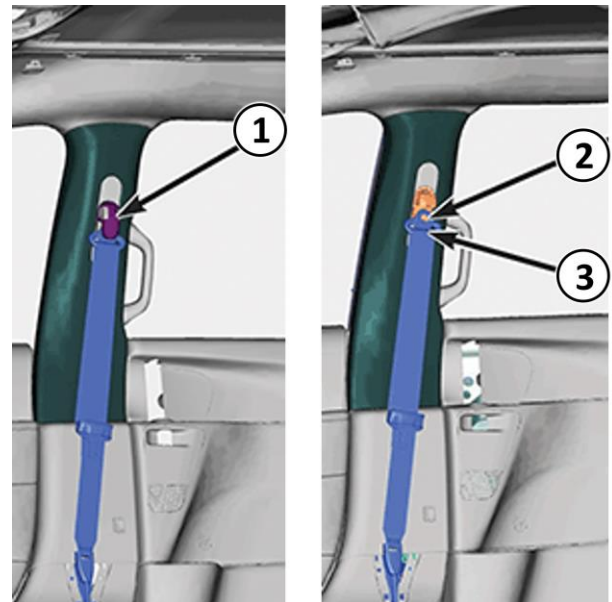

Figure 4 – B-Pillar Seat Belt
12. Move the seat belt height adjuster to the lowest position (Figure 4).
13. Using a trim stick or equivalent, remove the bolt cover (Figure 4).
14. Remove the seat belt turning loop nut (Figure 4).